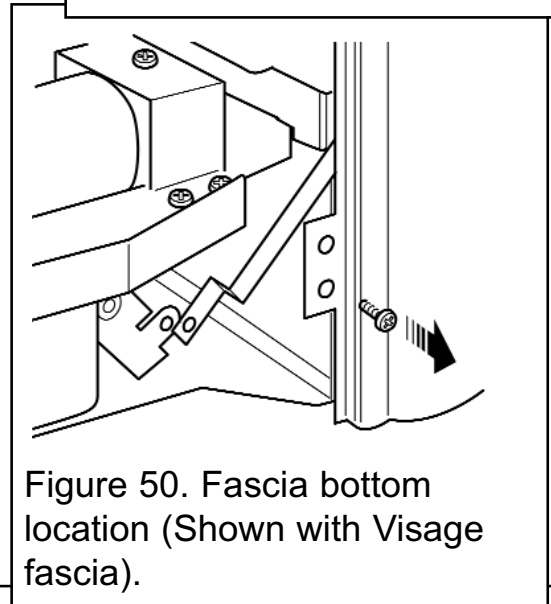

Figure 50. Fascia bottom location (Shown with Visage fascia).
3. Remove the two screws (and washers where fitted) securing the bottom of the fascia to the sides of the convection box (See figure 50).